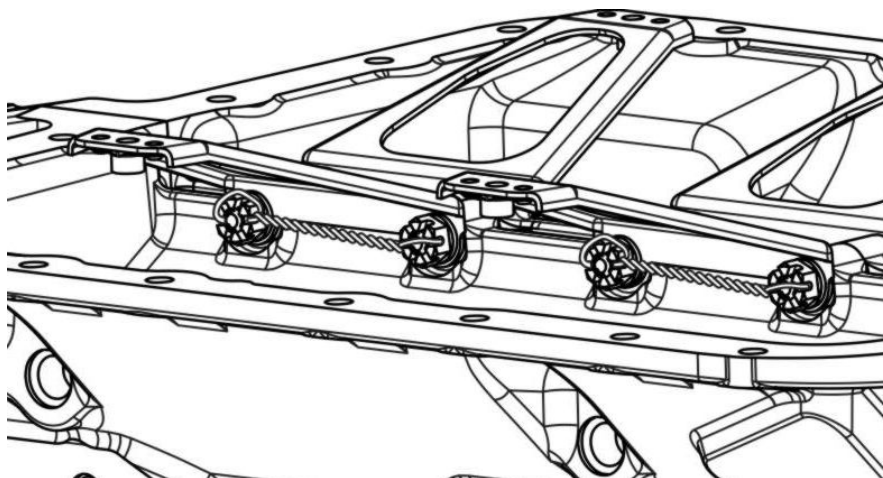

Figure 2
- c. Install and safety the lock wire through each pair of the nuts for the baffle supports as shown in Figure 2.